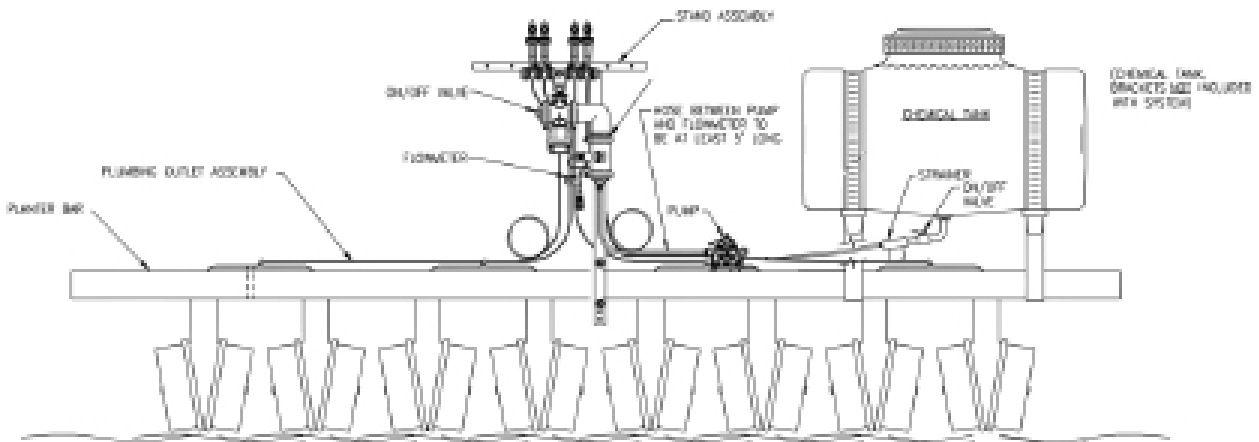

FIGURE 9
1. Mount the pump on the tool bar and close to the chemical tank. Use the large hose clamps provided. Ref. figure 9 & 10.